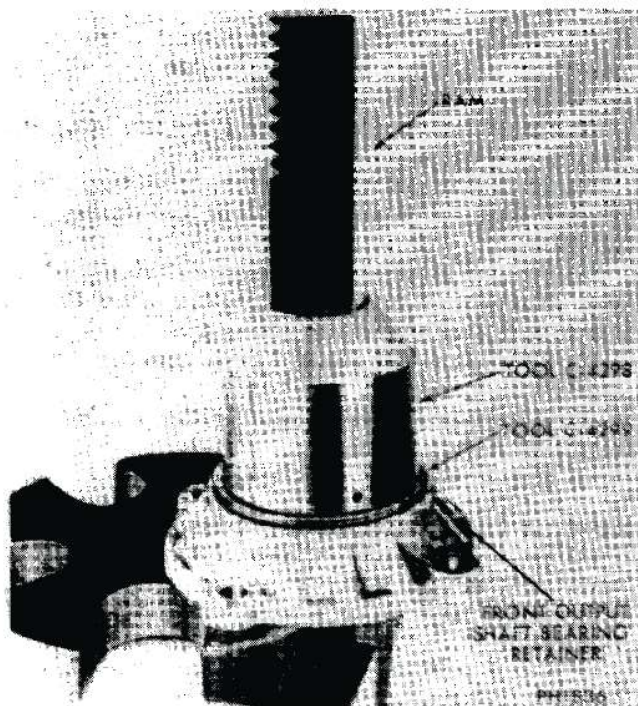

Fig. 21—Pressing in Front Output Shaft Seal
(1) Remove front output shaft yoke lock nut, washer and rubber seal. Tap or pry yoke off shaft.
(2) Pry seal out of retainer and discard.
(3) Clean and inspect retainer.
(4) Apply sealer to outer diameter of new seal.
(5) Position seal on retainer bore. Using tools C-4299 and C-4300 install seal in retainer (Fig. 21).